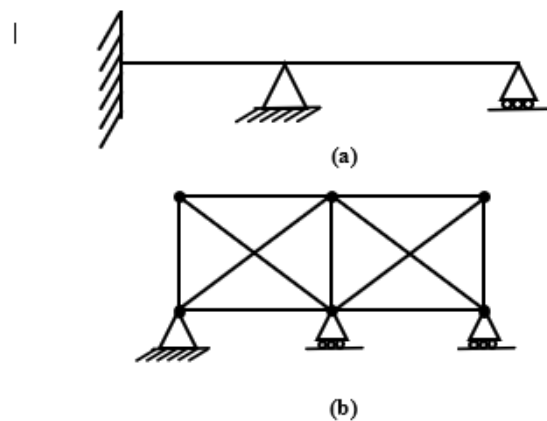

Figure 1
- (b) Calculate Static and Kinematic Indeterminacy for the structures shown in the figure 1 **04**